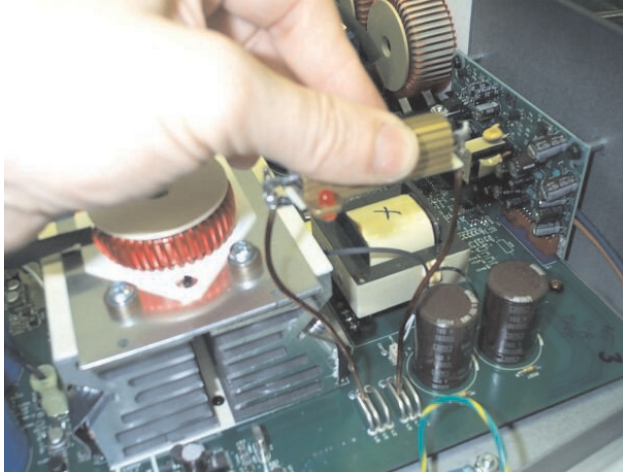

Figure 4.3 Power Supply Discharge
2. Locate L6 and L9 on the Main PWA (see Figure 4.3).
5. Remove the 8 Flathead T15 screws on the side and bottom of chassis that secure the back panel to the chassis. Slide the back panel partially out and away from the amplifier, then unplug the fan wires from the Main PWA at J4 (see Figure 4.3).